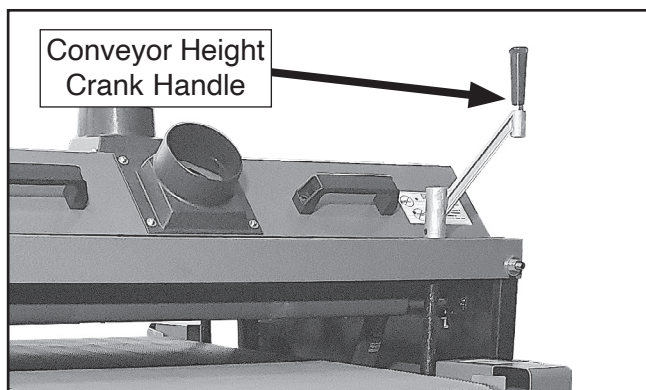

Figure 23. Location of conveyor height crank handle (G1066R shown).
1. Rotate conveyor height crank handle, shown in **Figure 23**, until conveyor is well below sanding drum, then raise conveyor, allowing a gap between workpiece and sanding drum.